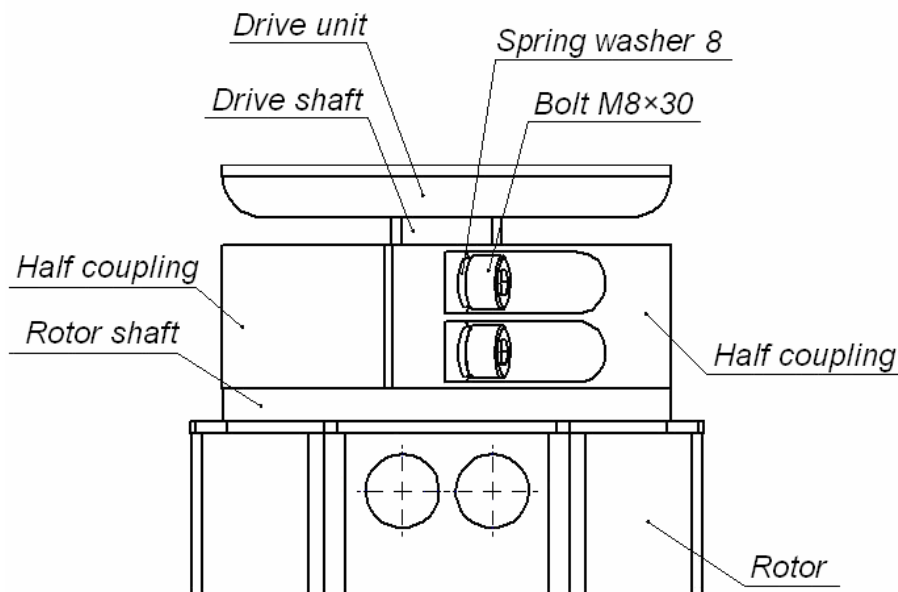

Fig. 18 Juncture of the operating mechanism shaft with the rotor (1) shaft by the union joint (16)
- 15.4. Join the rotor shaft with the shaft of the operating mechanism by means of two half-couplings (16) with four bolts M8×30 with spring washers 8 (Fig. 18).